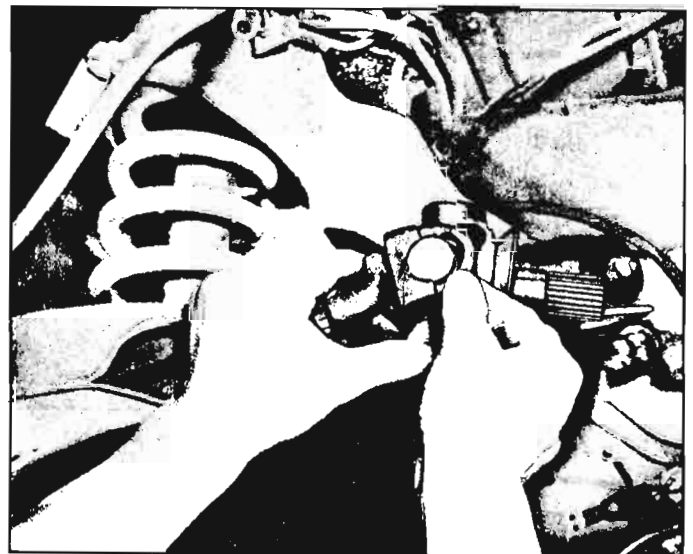

Fig. 6C-12—Installing U-Joint to Yoke on Axle Shaft and secure yoke to shaft with original bolt, flat washer, and lock washer.
2. Secure installation of U-joint flange to axle shaft with bolt, washer, and lock washer (fig. 6C-10).